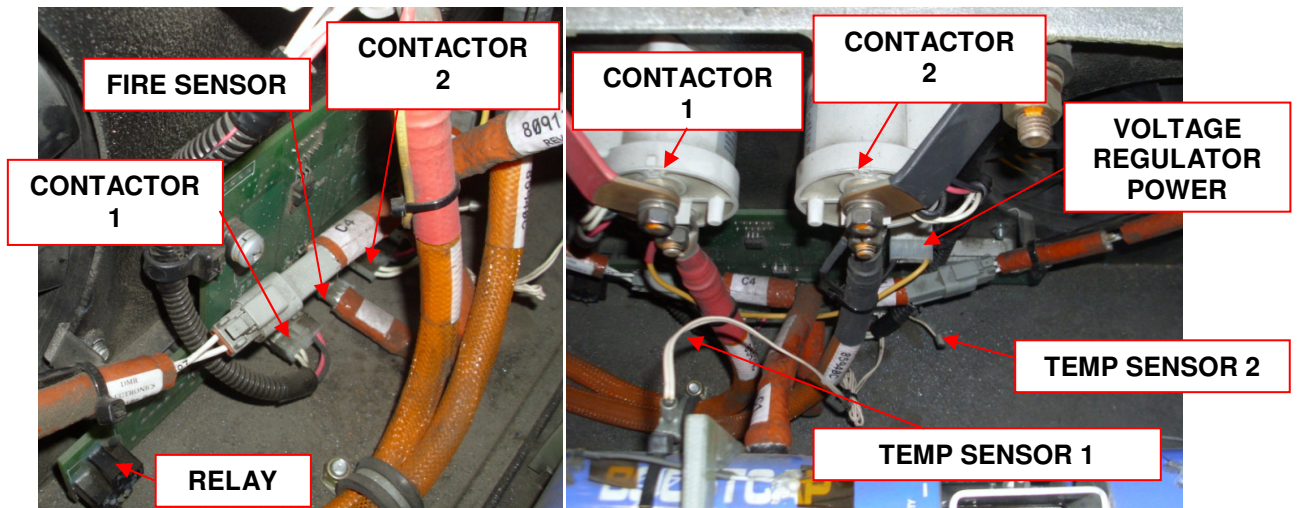

Fig 9 – Circuit Board Harnesses
- a. Have one person on the UCAP place their hand on the contactor (See Fig 9) to physically check for the contactor engaging.